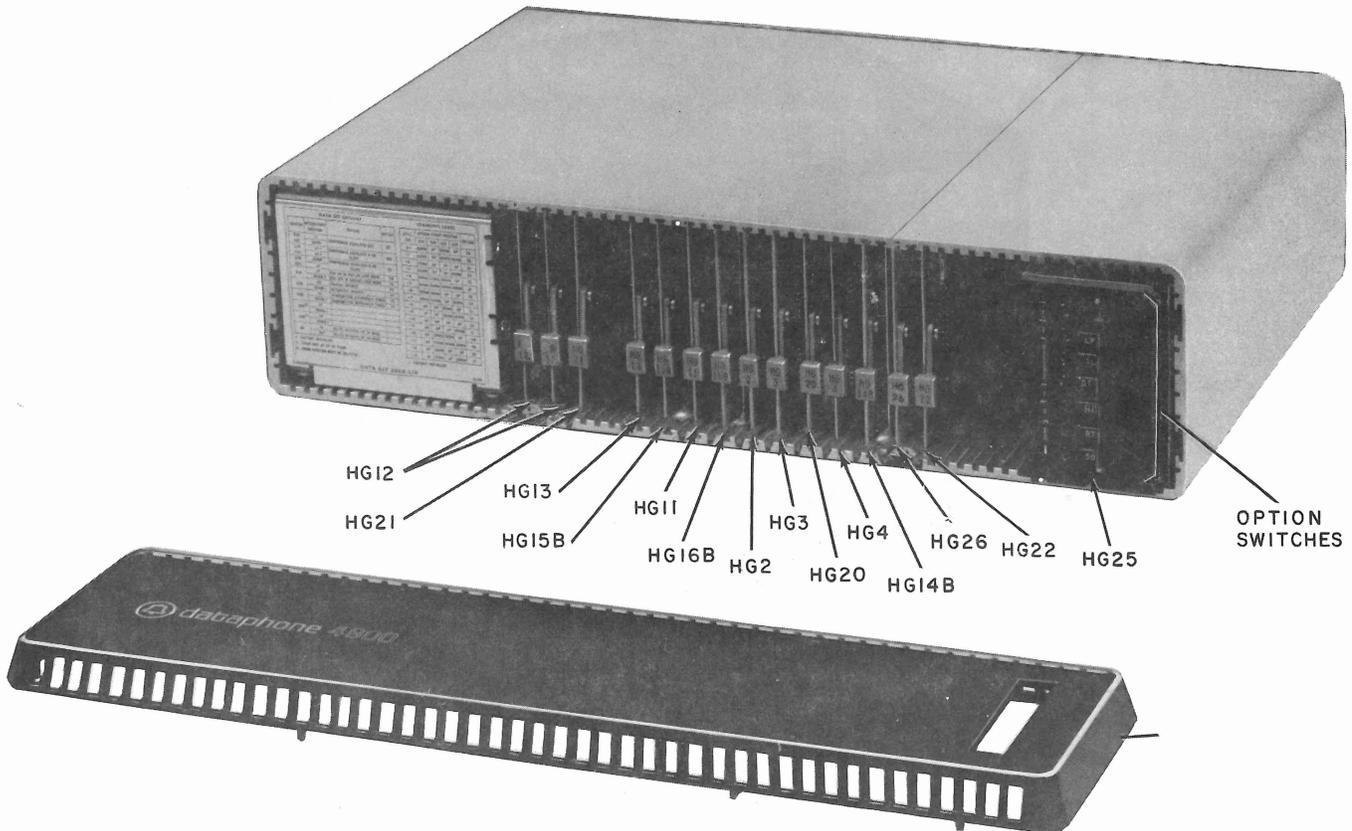

Fig. 3—Data Set 208B-L1B—Front View With Cover Removed
**2.01** DS 208B-L1 and -L1A (Fig. 2) consists of 18 HG-type circuit packs (CPs), while DS 208B-L1B (Fig. 3) uses only 15 CPs. The CPs and an 83A power unit are mounted in an extruded aluminum housing equipped with two (front and rear) black plastic covers. Overall exterior dimensions are: 16 inches wide, 4-1/4 inches high, and 11-1/2 inches deep. It weighs approximately 20 pounds when fully equipped with CPs. A summary of the CPs used in each of the DS 208B-type is presented in Table A.